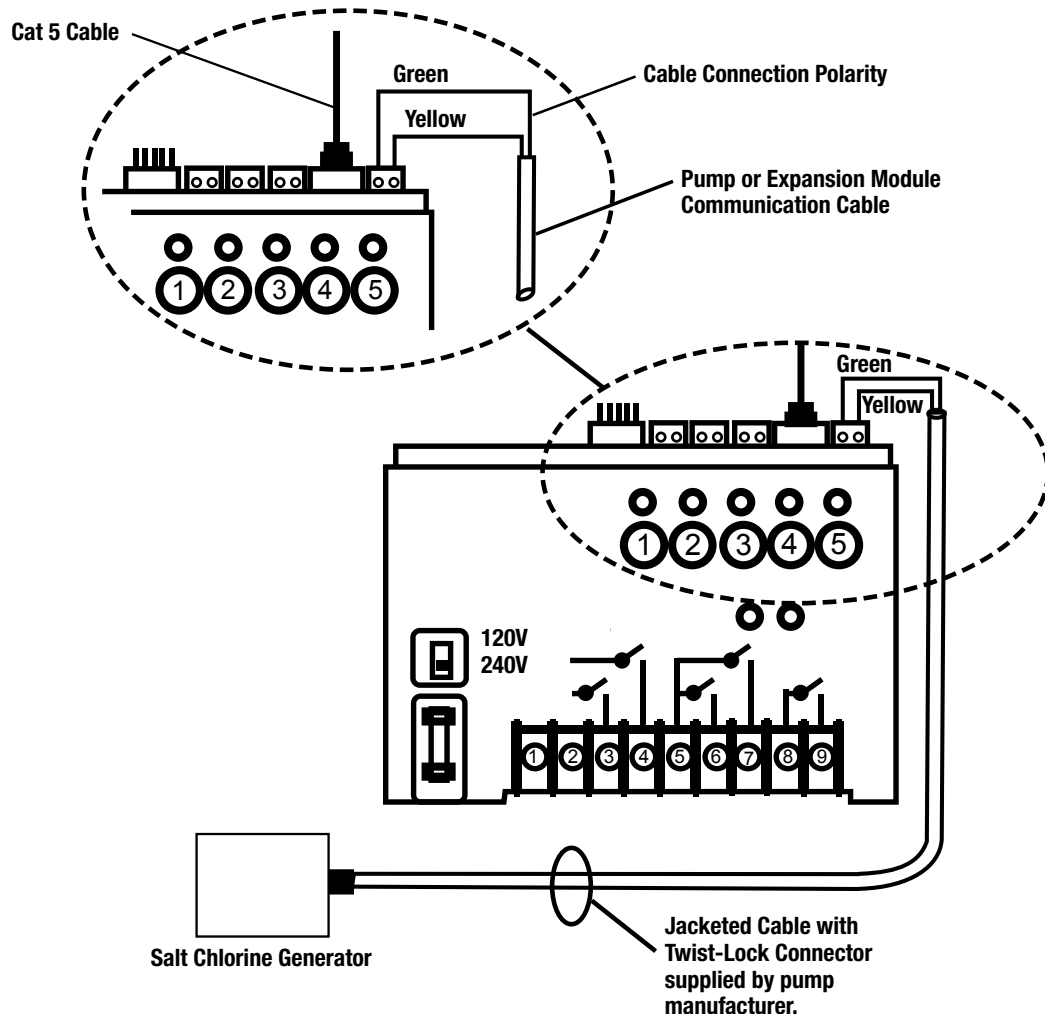

Figure 7-4. Connecting AutoPilot Salt Chlorine Generator wiring.
3. Connect the green wire from the unattached end of the communication cable to the connector terminal next to the Cat 5 cable. See Figure 7-4.
4. Connect the yellow wire from the cable to the connector terminal next to the green wire. See Figure 7-4.